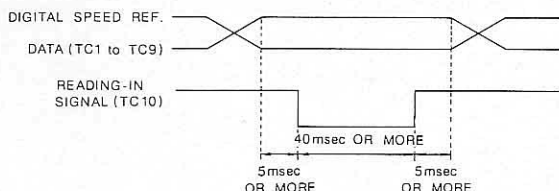

Fig. 4 Digital Speed Reference Read-in Signal Timing
* Terminal symbol TC10 "SET (read-in) signal" enables digital speed reference reading-in. When reading-in, short circuit TC10 and TC11 as shown in Fig. 4. When continuous reading-in required without using this read-in signal, short circuit TC10 and TC11 in advance.